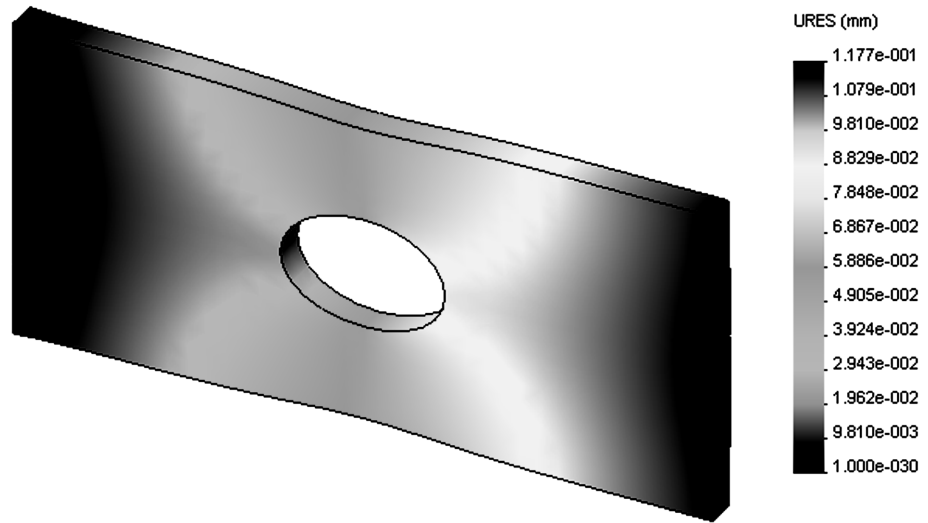

Figure 2-27: Displacement results using Continuous fringe options
- Figure 2-27 (displacement)
The plot in Figure 2-27 shows the deformed shape in an exaggerated scale. You can change the display from undeformed to deformed and modify the scale of deformation in the **Displacement Plot** window, activated by right-clicking plot icon, then selecting **Edit Definition**.